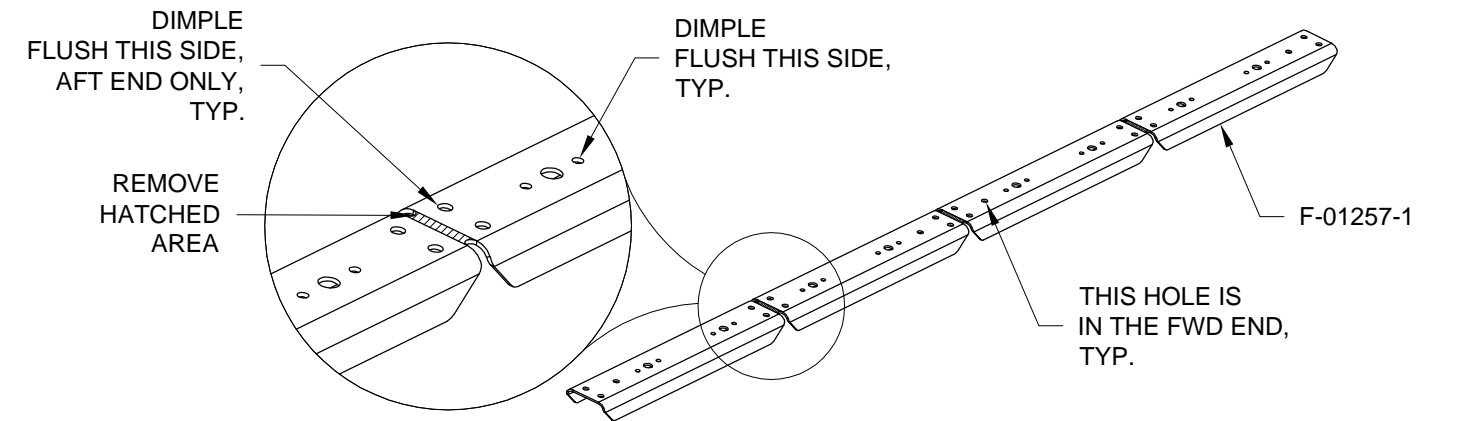

FIGURE 5: SEPARATING F-01257-1
Step 2: Separate and deburr the F-01257-1 as shown in Figure 5.